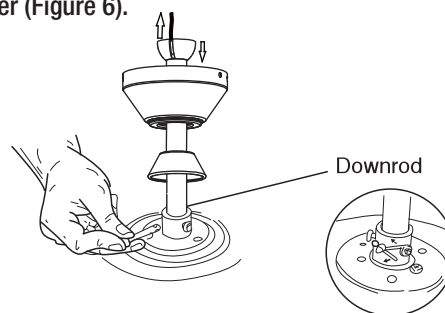

Figure 6
- Push the pivot pin (CC) through the hanger and downrod holes (Figure 6). Pivot pin's insert end is of special designed cone shape, it would push away and won't harm the wires inside the downrod. Secure the pivot pin (CC) by inserting the split pin (DD) and bending the ends to prevent it from falling out of the holes (Figure 6).
- Secure the hanger and downrod by tightening the screw on the hanger (Figure 6).